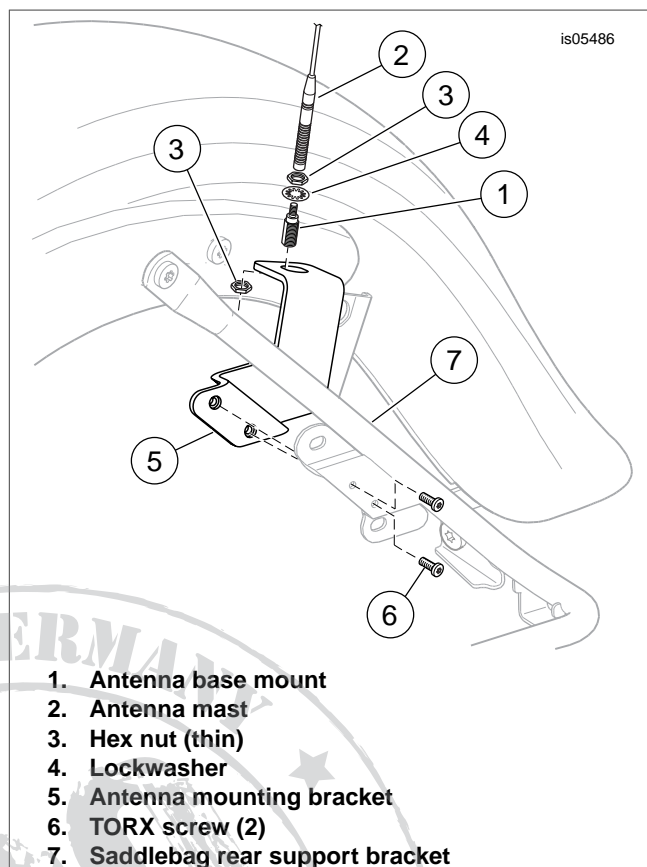
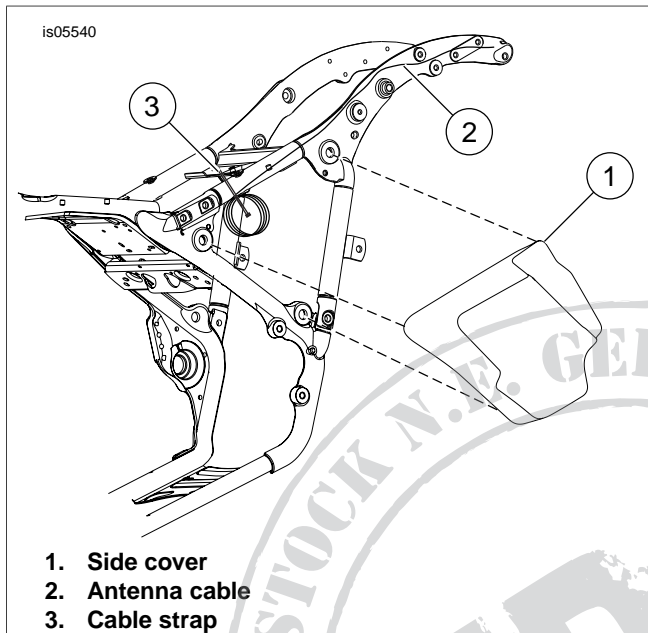

Figure 2. Antenna Mounting Bracket
Figure 3. Side Cover and Antenna Cable Strap Location
1. Figure 2. Position the antenna bracket (5) as shown to the inside of the lower saddlebag support bar. Install screws (6). Tighten the screws to 22 **in-lbs** (2.5 Nm)
2. Install the internal tooth lockwasher (4) from the kit onto the larger threads of the antenna base (1), under the upper hex nut (3), and insert the antenna base through the hole in the antenna mounting bracket.
3. Install the lower hex nut (3) onto the threads of the antenna base. Tighten the lower nut to 6 ft-lbs (8 Nm).
4. See Figure 3. Gently remove left side cover (1) by pulling from frame tubes.
6. Coil excess antenna cable/wiring (2) and use long cable strap (3) to fasten cable to frame under left side cover (1) with vehicle wiring harness.
9. See Figure 2. Install the antenna mast assembly (2) securely onto the antenna base (1).
1. See Figure 3. Install left side cover (1).